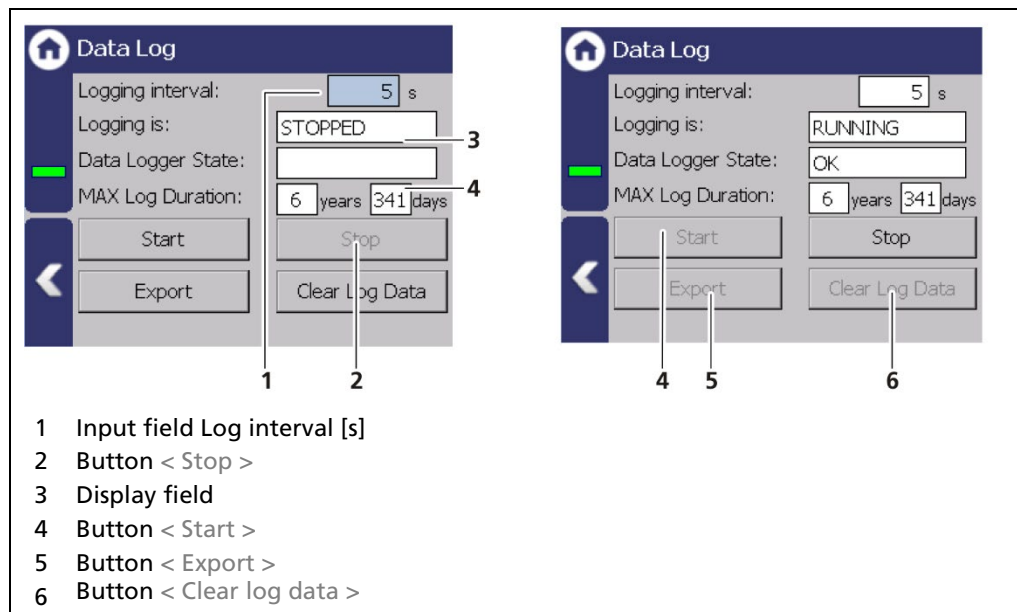

Fig. 139 Data Log
1. Click on the button < Stop > (Fig. 139, item 2) to stop the data log process.
2. Click on the input field "Log interval" (Fig. 139, item 1) and enter the time in seconds.
4. Click on the button < Start > (Fig. 139, item 4) to start the data log process.
3. Click on the button < Export > (Fig. 139, item 5).